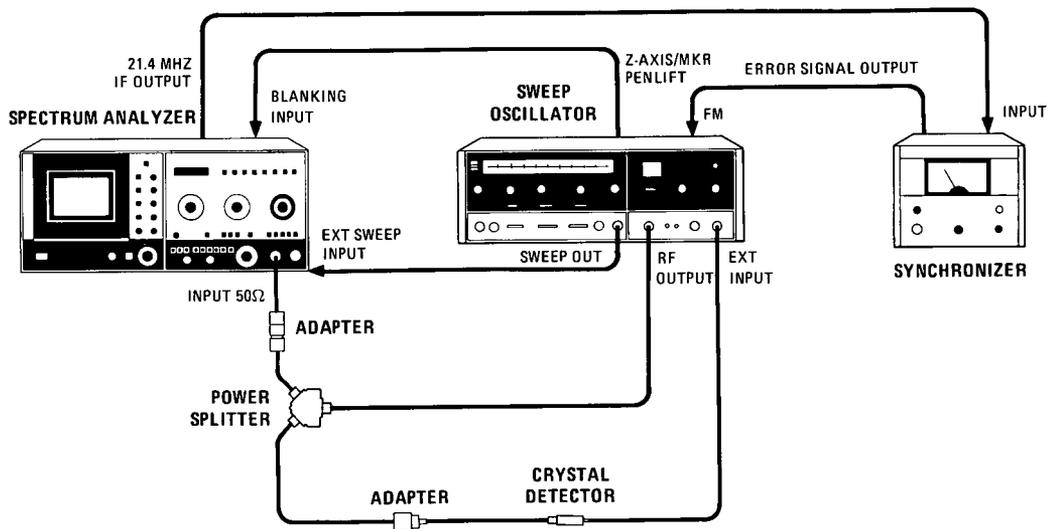

Figure 5-47. Preliminary Bias Adjustment Test Setup
- b. Reconnect power cord, set LINE switch ON, connect equipment as shown in Figure 5-47, and set controls as follows: